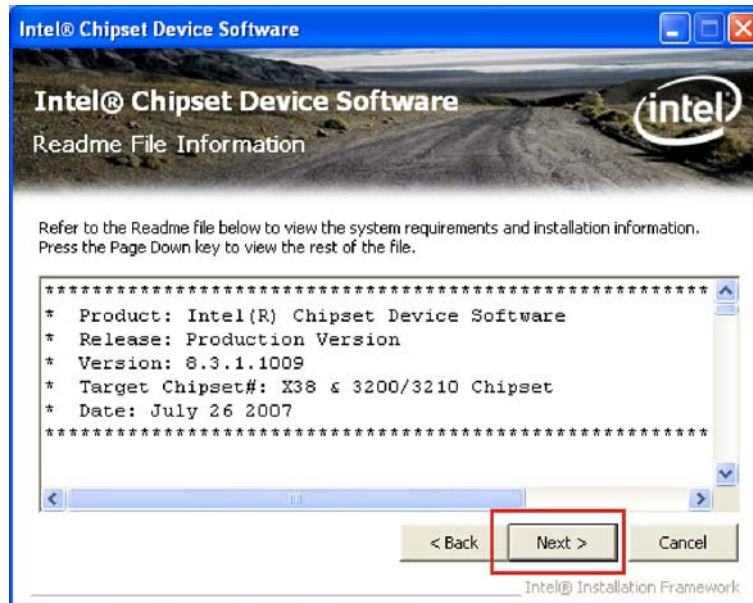

Figure 6-5: Chipset Driver Readme File
Step 8: The **Readme File Information** window appears (Figure 6-5).
Step 9: Click **NEXT** to continue the installation process (Figure 6-5).
Step 10: When the drivers are installed, the window in Figure 6-5 appears.